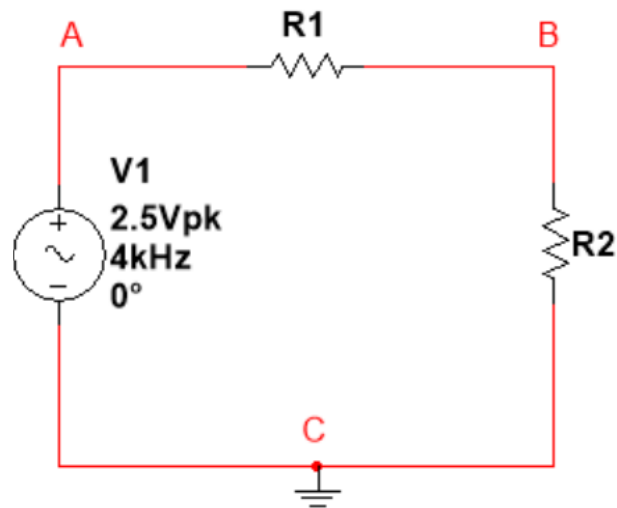
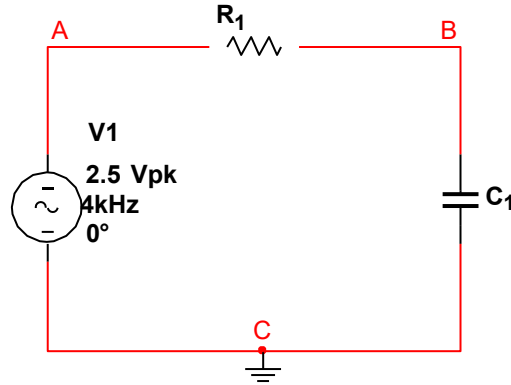

Figure 3.1 – AC Circuit #1
Figure 4.1 – AC Circuit #2
1. **Assemble** the circuit illustrated in **Figure 3.1**. $R_1 = 2\text{k}\Omega$, $R_2 = 3\text{k}\Omega$
1. **Assemble** the circuit illustrated in **Figure 4.1**. $R_1 = 2k\Omega$, $C_1 = 0.1\mu F$
3. Perform simulations for the AC Circuits #1 and #2 from **Figure 3.1** and **Figure 4.1** in the lab, and include your results in the lab report.